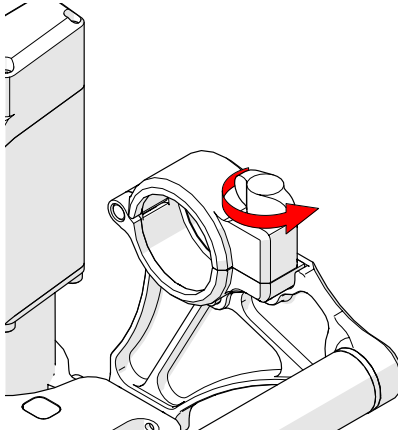

Fig. 80 - Loosen wing knob
1. Unscrew the cable management clamp wing knob (Fig. 80).